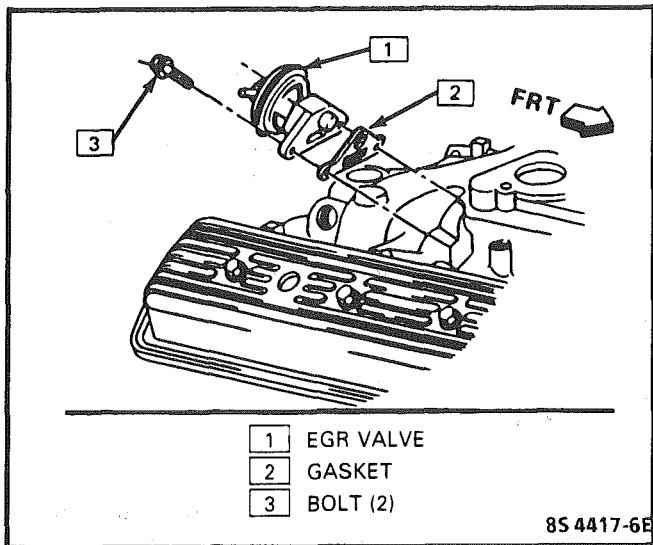

Figure C7-4 - EGR to Manifold Mounting 5.0L
3. Electrical connector at solenoid, (Figure C7-4)